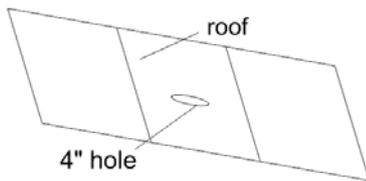

Fig. 1
1. Use the existing hole on the roof or open a 4" hole. See fig. 1.